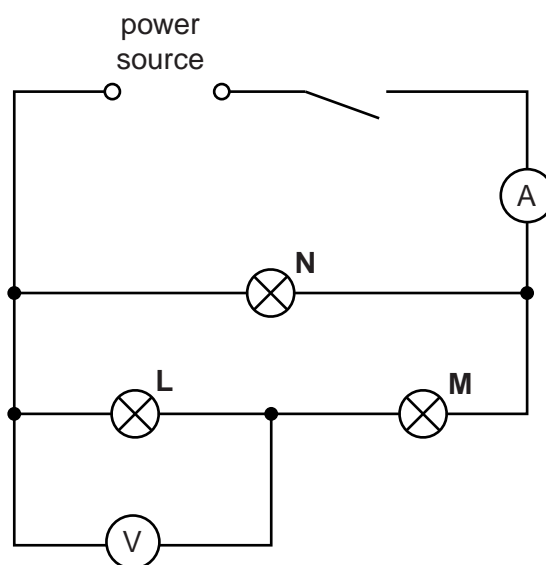

Fig. 3.1
- (iii) Ammeter capable of measuring the current in the circuit shown in Fig. 3.1 with a minimum resolution of 0.02A . Either a $0 - 1\text{A}$ analogue meter or a digital meter would be suitable.
- (iv) Three identical lamps labelled **L**, **M** and **N**. Any low-voltage lamps will suffice, provided that they glow when connected in the circuit shown in Fig. 3.1.
- (vi) Sufficient connecting leads to set up the circuit shown in Fig. 3.1.
1. The circuit is to be set up for the candidates as shown in Fig. 3.1.
Reconnect the circuit as shown in Fig. 3.1. Check the lamps.